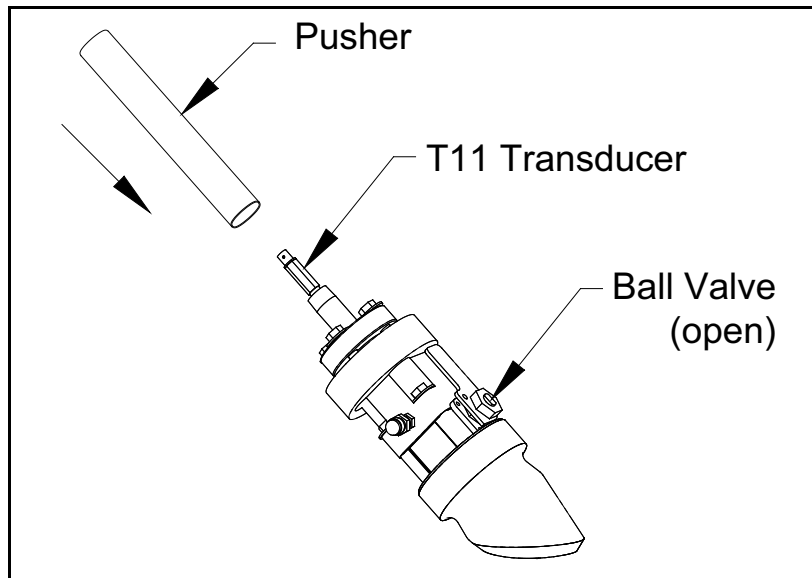

Figure 78: Transducer Pusher Installation
2. Apply anti-seize lubricant to the transducer thread and hand-tighten the transducer pusher onto the transducer until it is firmly in place (see *Figure 78* below).